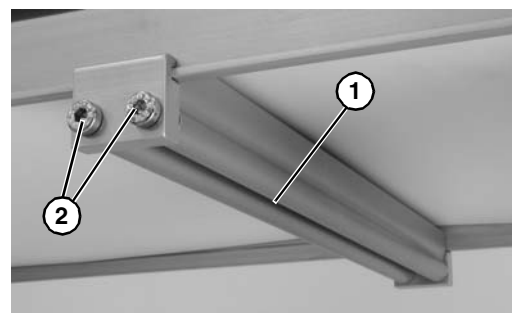

Figure 12
3. Install roller assembly as shown (**Figure 12, item 1**). Tighten screws (**Figure 12, item 2**) to 60 in-lb (7 Nm).